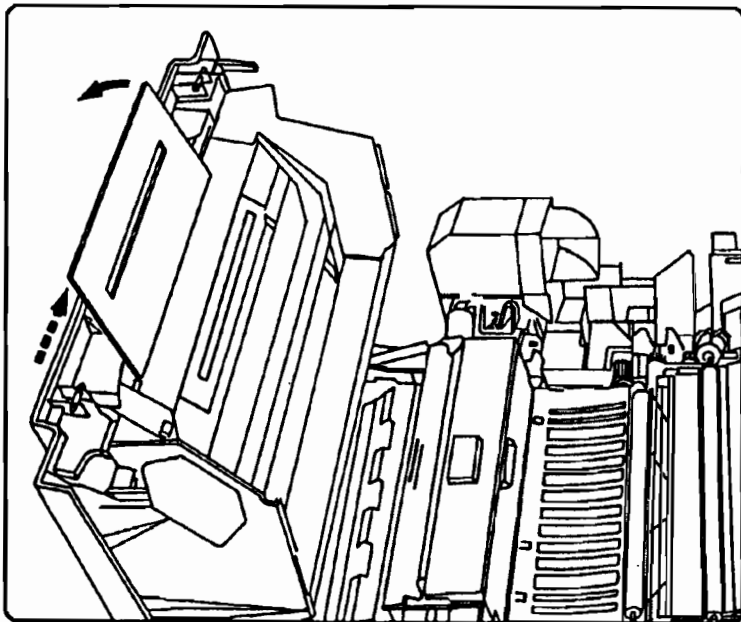

Figure 4-8. Cleaning the Beam-to-Drum Mirror
1. Access the Beam-to-Drum Mirror, located under the Top Cover Assembly, by moving the Mirror Shutter Assembly to the right (freeing the lever) and swinging it up and out of the way (see Figure 4-8, also "Mirror Shutter Assembly" in Chapter 6).